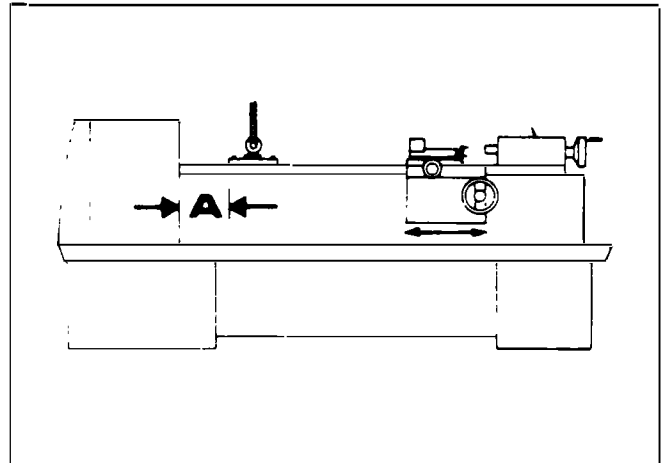

Fig. 2
- 1a. Position the bed-clamping plate and eyebolt as in Fig. 2, ensuring that the bottom clamp does not straddle the joint between gap piece (A) and bed.